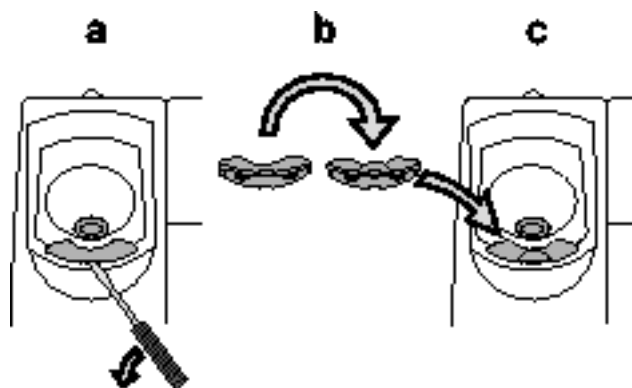

Figure 3: Changing the hook position
- Dismount and turn the hook around, see Figure 3 Changing the hook position on page 10.